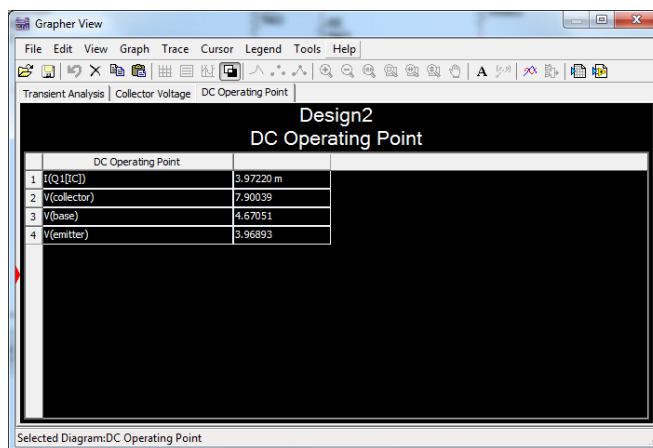

Figure 7
- Run a DC operating point analysis and select $I(Q1[IC])$ (collector current), $V(\text{collector})$, and $V(\text{Base})$. You should get values like the ones in Figure 7 below.